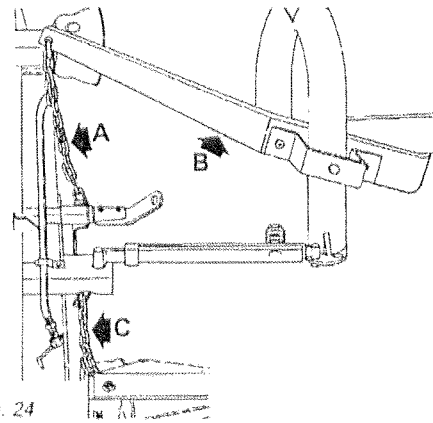
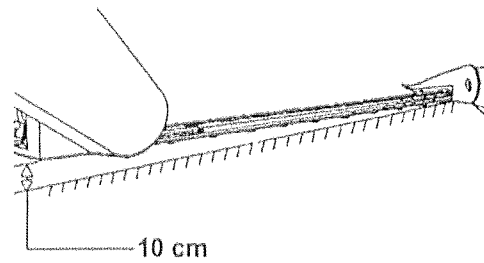

Fig. 24
Fig. 26
- Adjusting the hoisting chain (A, Fig. 24) so that during mowing the hoisting arm (B, Fig. 24) is free to move up and down; in this way, the cutting arm can follow any unevenness of the ground.
- Adjust the height of the cutting arm from the ground with chain (C, Fig. 24). Lower the mower; when the external tip of the arm touches the ground, the inner shoe must remain approximately 10 cm. above ground level (Fig. 26). Adjust by moving the chain links.
- The mower may be used with the cutting arm tilted for working on canal, ditches, embankments, etc. by adjusting hoisting chains (A and C, Fig. 24) after removing the mowing guide of the external shoe.